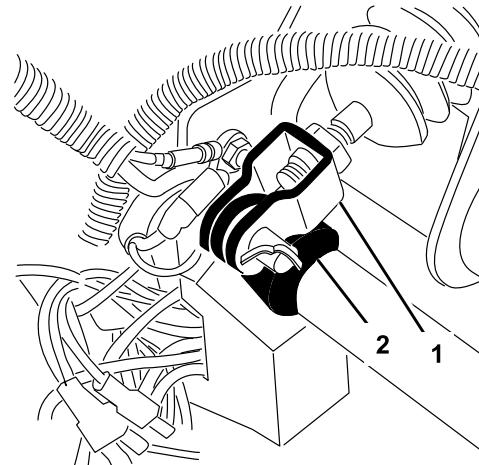

Figure 53
1. Remove the cotter pin and clevis pin securing the master cylinder yoke to the brake-pedal pivot (Figure 53).
3. Loosen the jam nuts securing the yoke to the master cylinder shaft (Figure 53).